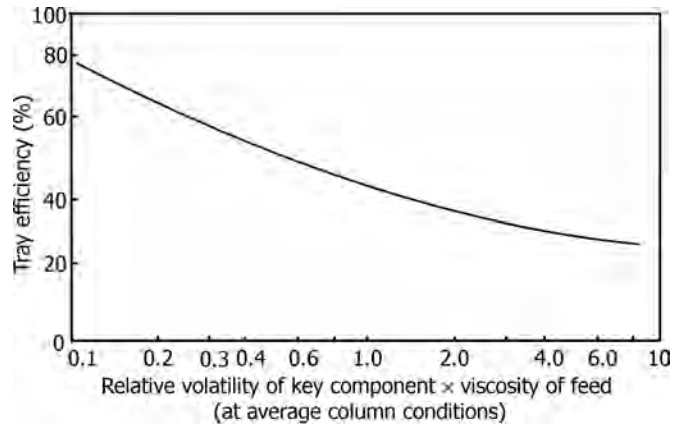

FIGURE 16.10 O'Connell correlation for the estimation of overall column efficiency.
- Figure 16.10 and Equation 16.1 represent O'Connell correlation: